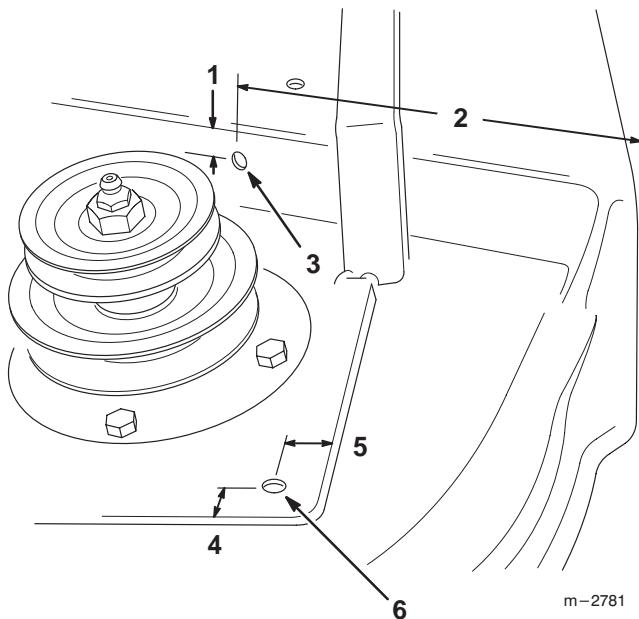

Figure 4
- Mark the location of the deflector hole in the rear of the mower deck and drill one (1) 11/32" hole (Fig. 4).
- Mark the location of the spring clip mounting hole, then drill the 13/32" hole in the deck (Fig. 4).